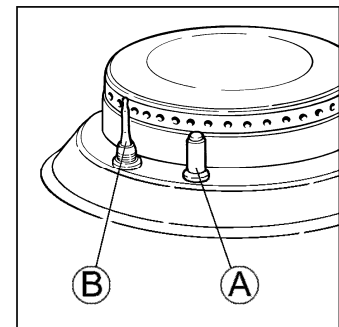

Fig. 7
- **Electric lighting of the burners with safety device** - The cook-top is equipped with electric ignition of the burners by means of spark plug "A" (Fig. 7). The spark plug operates when the push-button on the control panel is pressed. This button is marked by symbol ✨ (spark). To ignite the burner press the electric ignition push-button and, at the same time, press and turn in an anticlockwise sense the knob of the burner that is to be started to the symbol 🔥 ✨ (large flame/ignition spark). Release the electric ignition push-button once the flame has appeared and keep the gas cock knob pressed for about 6 - 8 sec., so as to let the safety thermocouple "B" heat-up. Release the knob and turn it to the position desired.